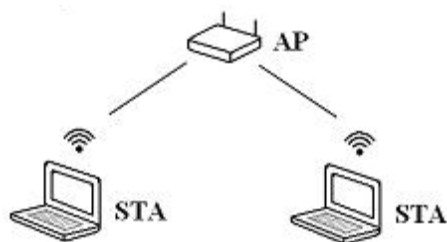

FIGURE 6-1. Infrastructure network
The NL241 can be configured to join an already established infrastructure wireless network (WLAN) (see FIGURE 6-1). An infrastructure wireless network is one in which all devices or stations (STA) communicate through an access point (AP). This AP will typically connect the wireless network (and the NL241) to a larger wired company or home network and/or the internet. The AP device also controls and routes all the traffic on the wireless network. Once the NL241 has successfully joined the existing wireless network, it can communicate with other devices on the network.